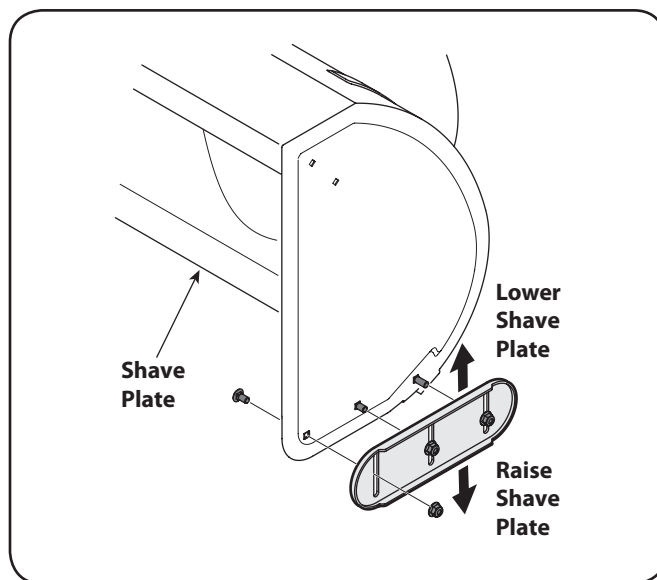

Figure 3-7
1. Adjust skid shoes by loosening the six (three on each side) hex nuts, washers, and carriage bolts securing the skid shoes to the auger housing. Refer to Figure 3-7.
2. While observing the distance between the shave plate and the ground, adjust the skid shoes up or down to achieve the desired shave plate height. See Figure 3-7.